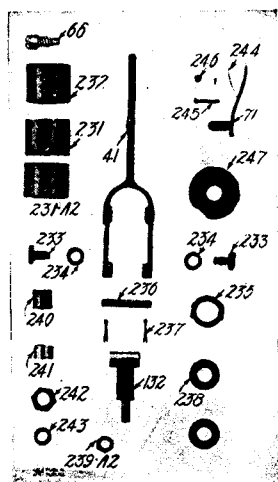

Fig. 60.
53. Intake and exhaust cam shafts, shifting lever, magneto and pump gears, etc. (See Figs. 60 and 61.)